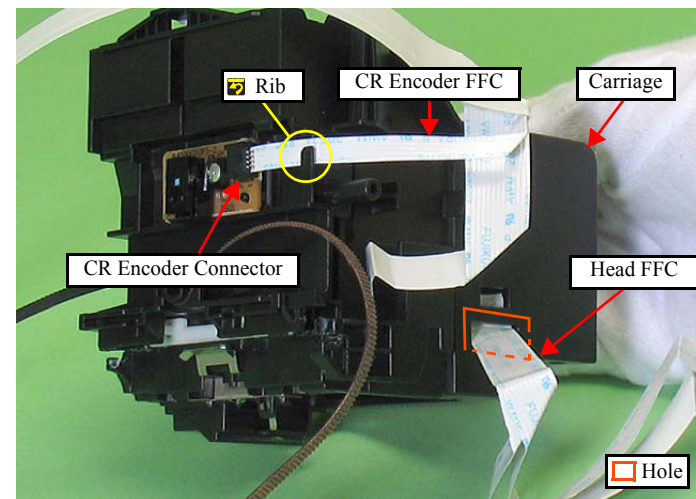

Figure 4-80. Removing the CR Unit (3)
- Route the CR Encoder FFC through the rib as shown in Fig.4-80.